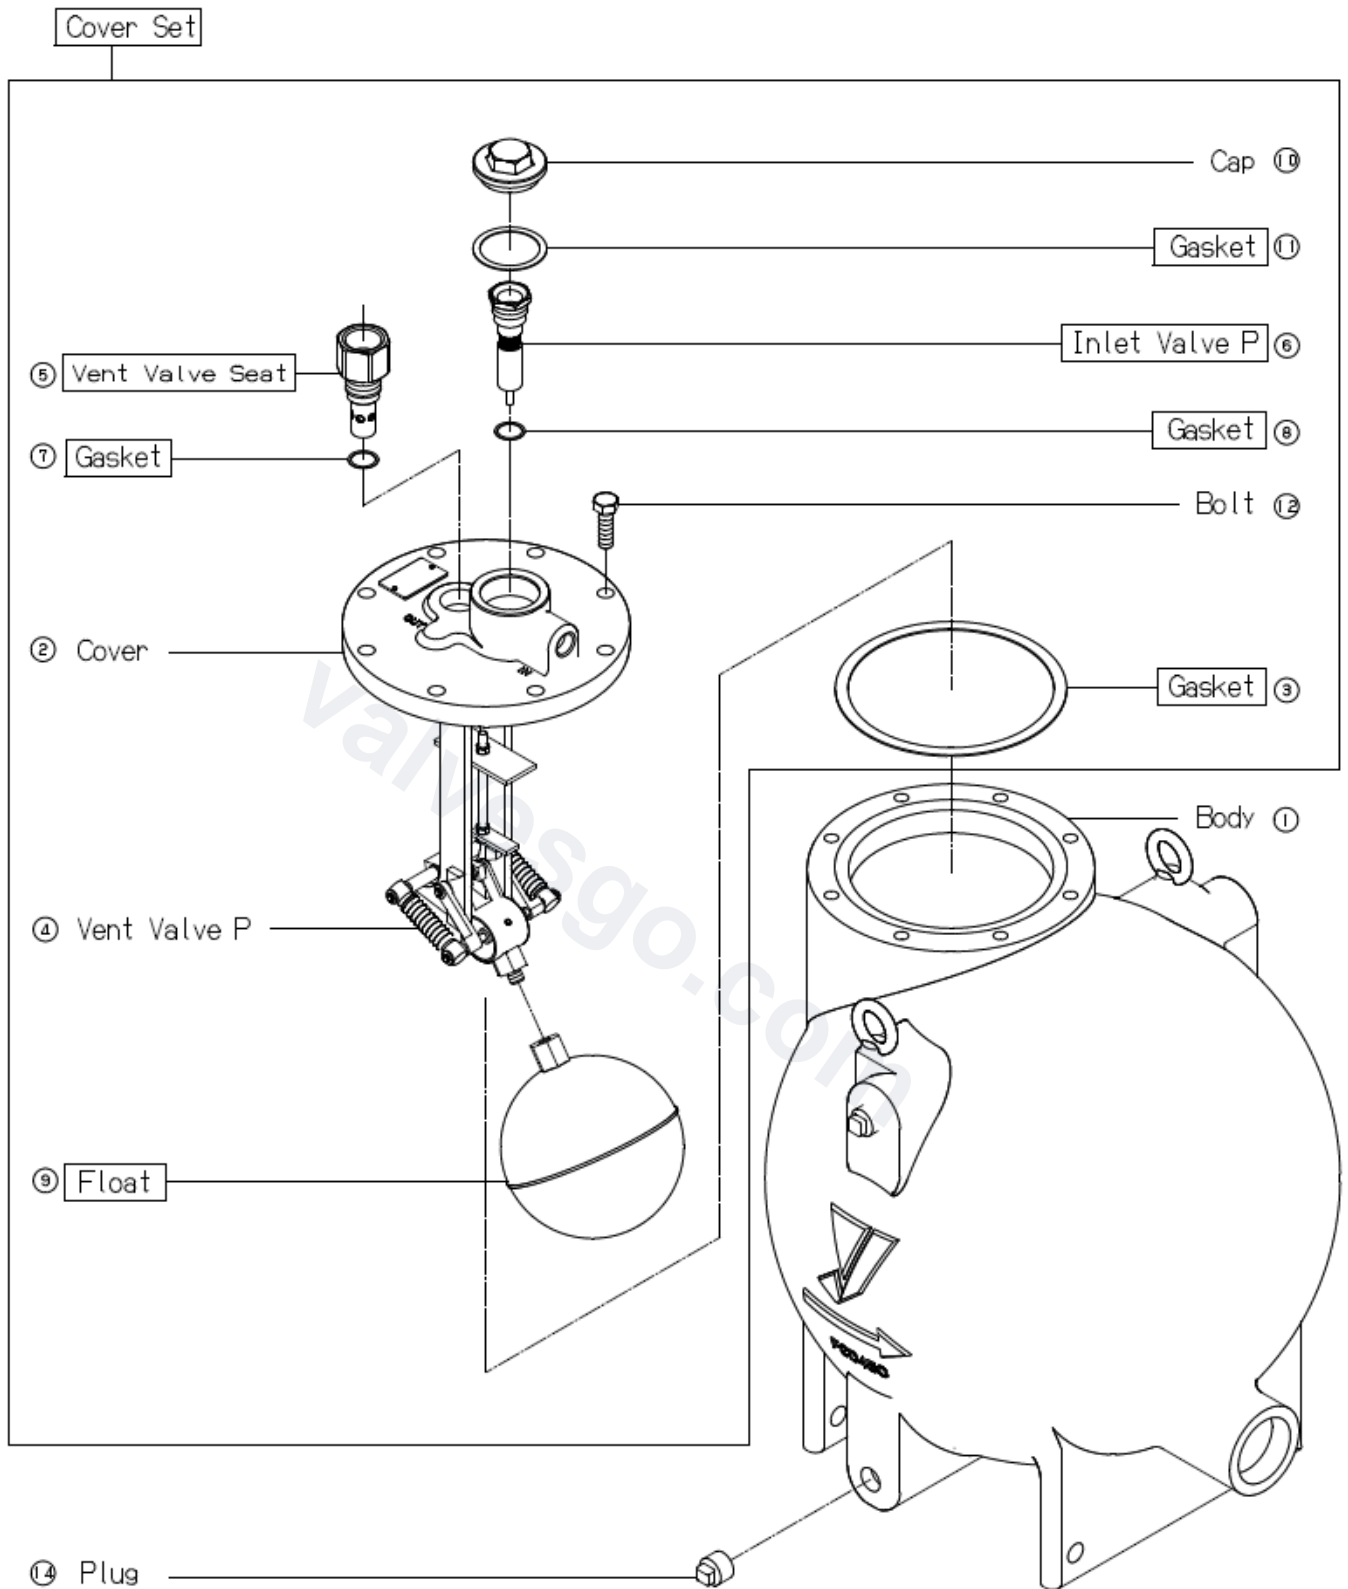

Fig. 8. Exploded view
The following parts should be replaced at recommended intervals to maintain functions and performance of the product. Replace the parts at the recommended intervals. (See Fig. 8 for the numbers inside the brackets [ ].)
**8.3 Troubleshooting** (See 6.1 Piping example for marks and numbers of stop valves, and see Fig. 8 for the numbers inside the brackets [ ].)
### 8.4.1 Warning and caution for disassembly/assembly (See Fig. 8 for the numbers inside the brackets [ ]).
### 8.4.2 Disassembly method (See Fig. 8)
#### 8.4.3 Assembly method (See Fig. 8)